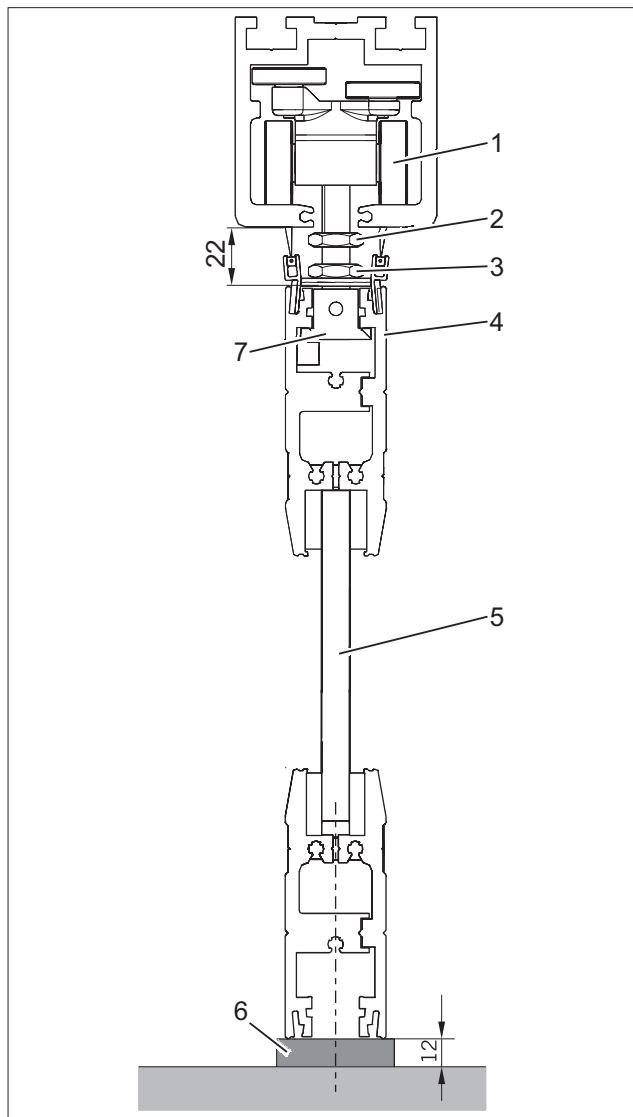

Fig. 28 Installing the folding panel
Use 2 people to place the folding panel (Fig. 28/5) on the setting block (Fig. 28/6).
4. Laterally insert the suspension block (Fig. 28/7) into the upper door rail (Fig. 28/4) or into the folding panel's carrier profile.
5. Align the height of the folding panel using the nut (Fig. 28/2) to provide a 12-mm distance between the floor and the door rail (Fig. 28).
6. Tighten lock (Fig. 28/3) to set the height.